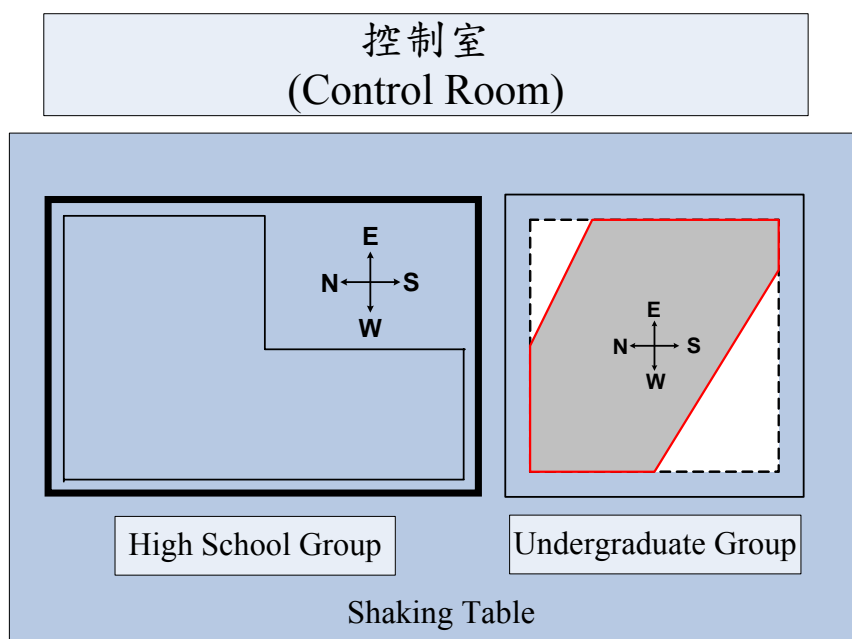

Figure 13. The adopted mounting orientations mentioned in regulation 8.5.
- 8.5 The adopted mounting orientations in this competition are those specified by the laboratory, and can be found in Figure 13.